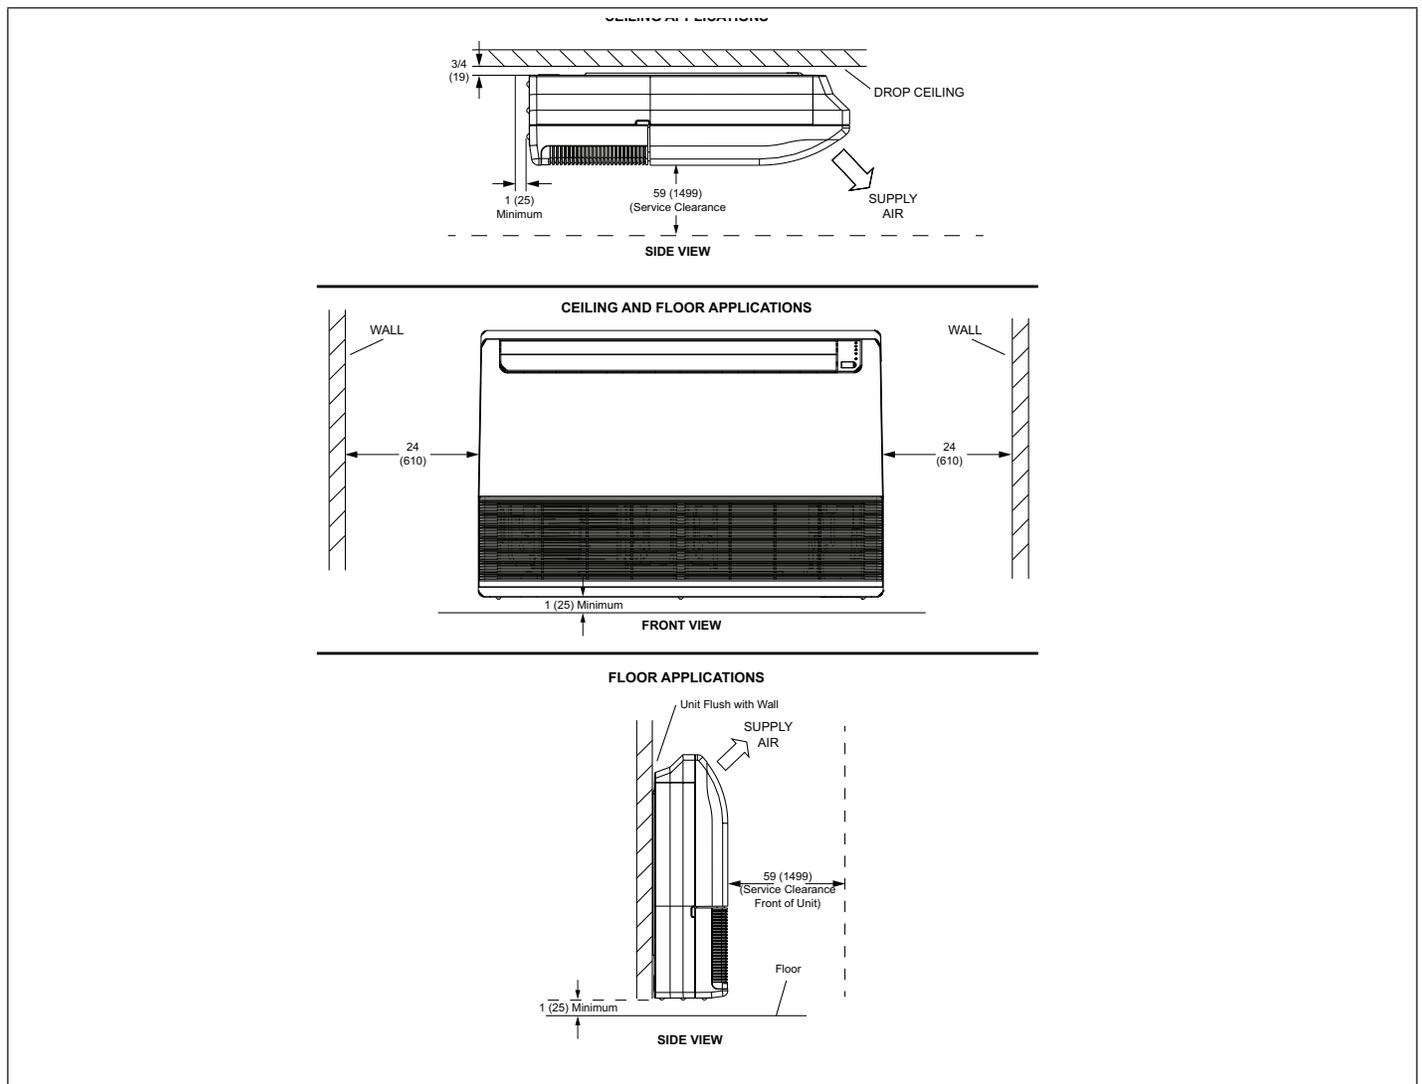

Figure 10. Indoor Unit Clearances - Inches (mm)
- Locate a suitable position within the space where maintenance access and supply air will not be restricted or affected by obstacles. See "Figure 10. Indoor Unit Clearances - Inches (mm)" on page 9 for minimum clearances